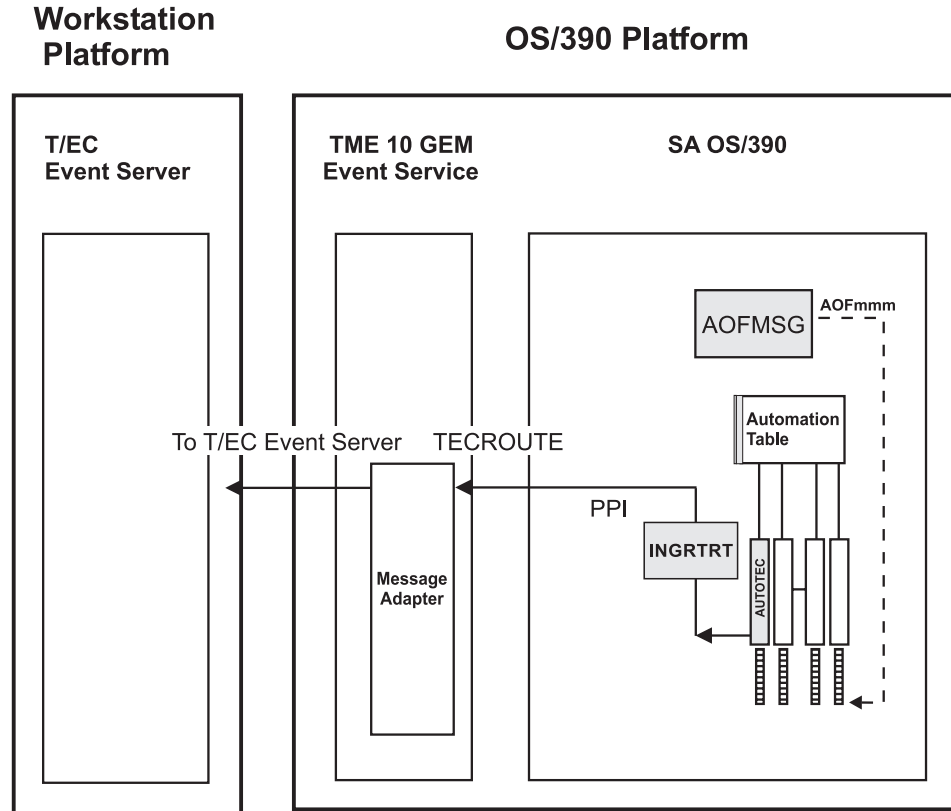

Figure 7. Local Configuration: Tivoli GEM Event/Automation Service local to the SA OS/390 Source of Messages
- **local configuration:** The message adapter or alert adapter is running on the same OS/390 system on which SA OS/390 is also running. The adapters are local to the SA OS/390 which is issuing and forwarding messages and alerts to the Tivoli Enterprise Console. Such a configuration for message forwarding is illustrated in Figure 7 on page 36.